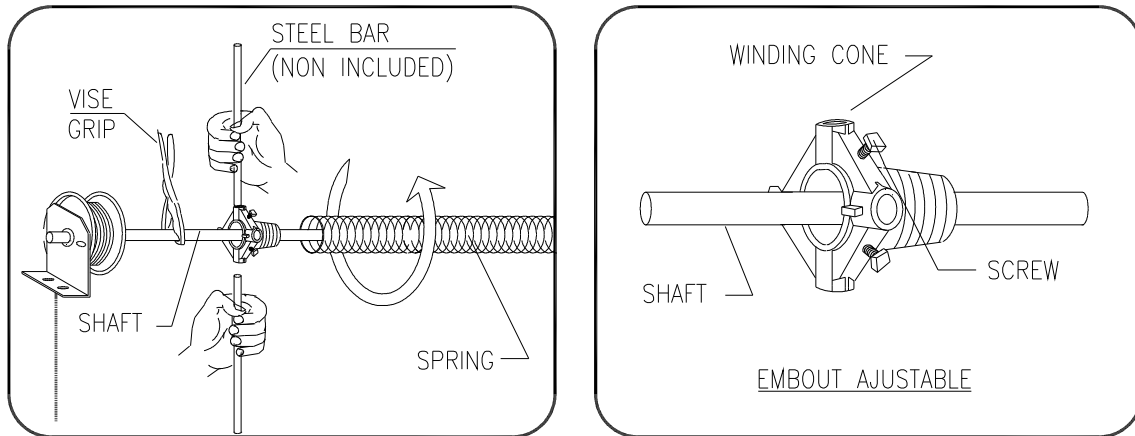

Figure 14
- Using steel bars of 1/2" diameter, 18" long (not supplied), wind the cones upward for the recommended number of turns indicated on the bearing plate.(figure 14)